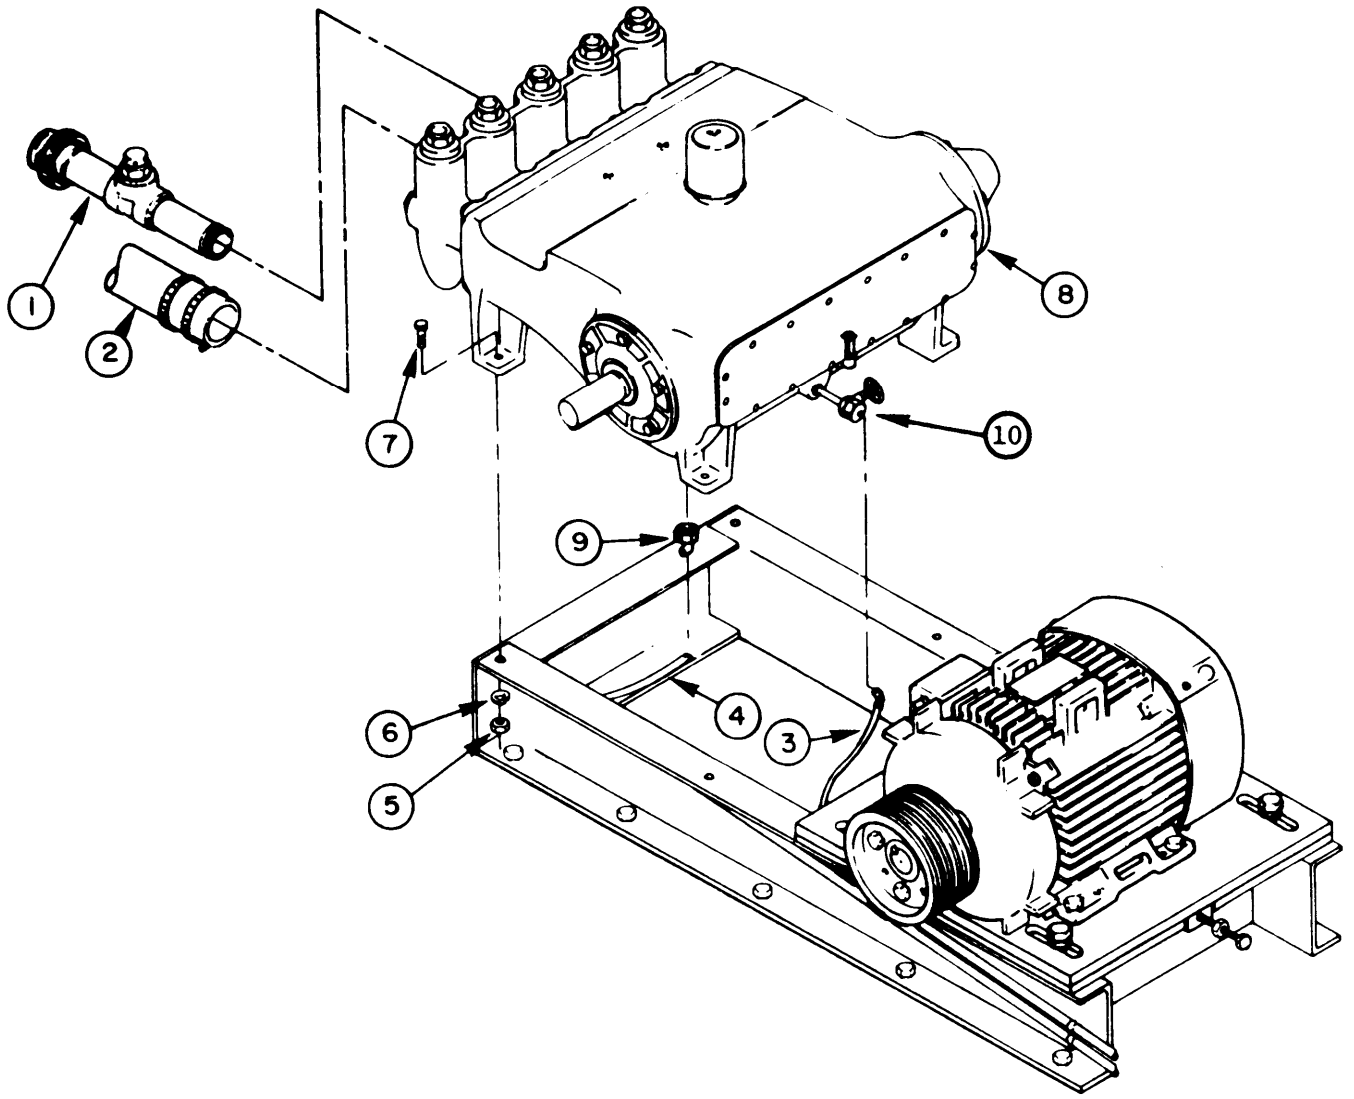

Figure 2-88. R.O. Pump Assembly
2-73. R.O. PUMP ASSEMBLY. (Figure 2-88)
- (1) Replace damaged nuts, bolts, screws, and washers.
- (2) Replace flexible hoses and hose clamps.
- (3) Replace damaged oil drain valve and pipe fittings.
- (4) Replace damaged or unserviceable R.O. pump assembly.
- (5) Repair R.O. pump suction/discharge assembly in accordance with paragraph 4-3.
- (6) Repaint and install R.O. pump assembly in accordance with Standard Operating Procedures.
f. Installation. (Figure 2-88)